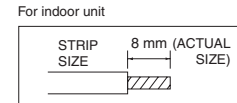

Fig. 3-53
- (1) Cut the wire end with a cutting pliers, then strip the insulation to expose the wire about 8 mm. See the label (Fig. 3-53) near the terminal plate.